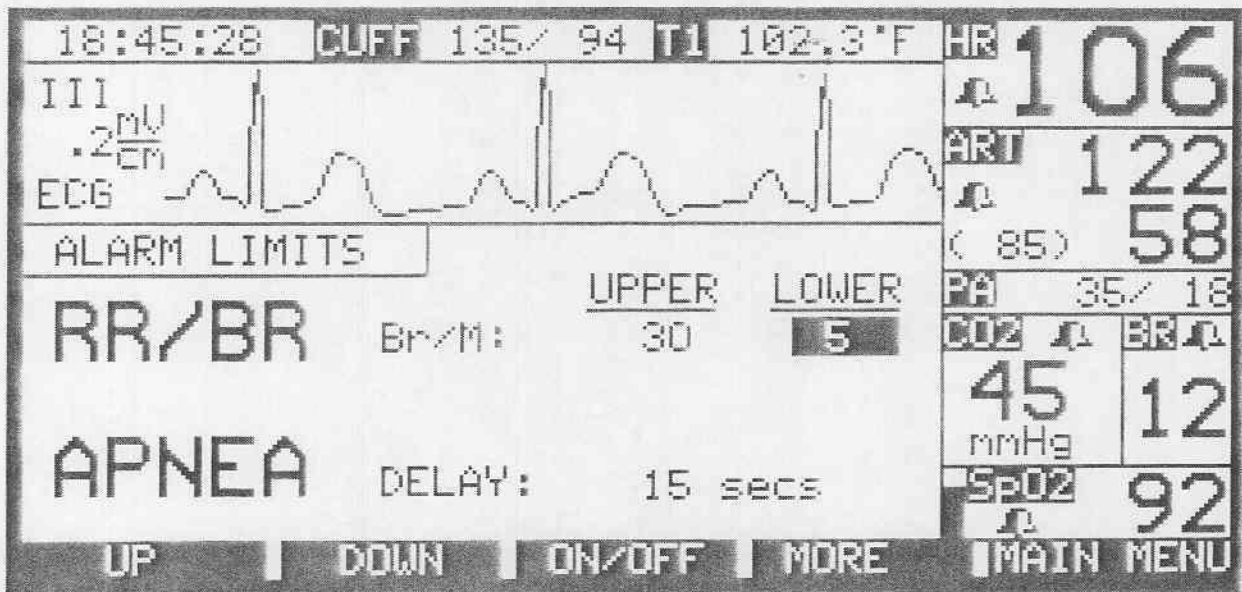

Figure 2-44. LCD display showing Breath Rate and apnea alarm limit status window
- 18 Set the alarm limit for Apnea Delay—this is the number of seconds that elapse before the Propaq alarms when the next breath is not detected. The default setting is 20 seconds. Once the first breath has been detected, the Apnea alarm limit setting is always turned on as long as the CO₂ channel is active. The BR and Apnea Alarm Limit window is shown in Figure 2-44 on page 2-90. STAT SET does not affect the Apnea limit.